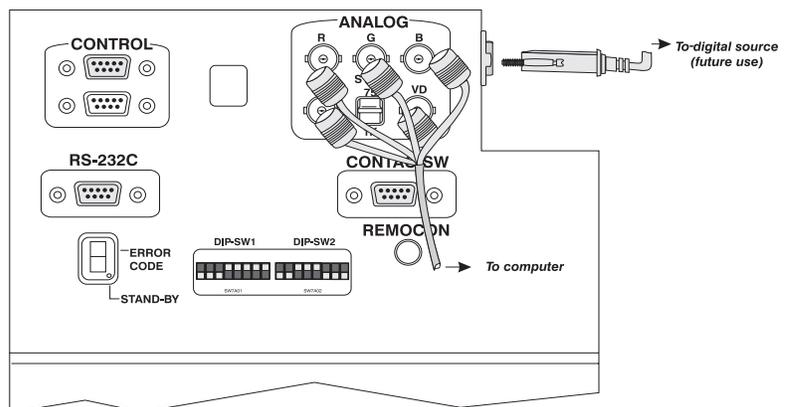

Figure 2.16. Connect a Source
All external connections are made to the control unit. The standard RGBHV analogue input with BNC connectors is located in the top-right corner of the input panel. All connector are labeled and easily identifiable. Connect the horizontal (H) and the vertical (V) sync cables first and follow by connecting the red (R), green (G), and blue (B) cables. See Figure 2.16.